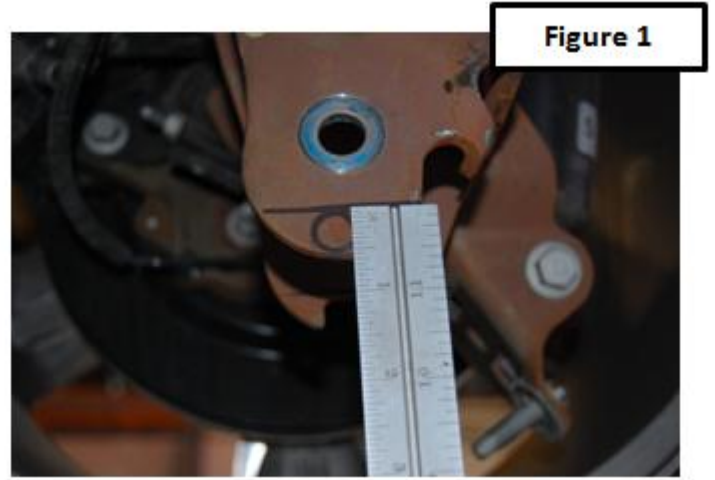
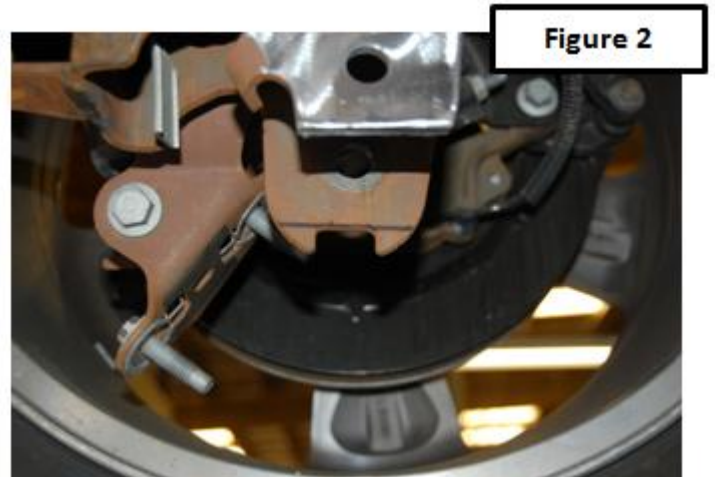

Figure 1
Figure 2
5. Measure up from the bottom of the trailing arm tab 5/8" and cut off square to the ground (See figure 1). On the tab with the cut out, remove metal so that the bottom edge is flat with the cut out (See figure 2).